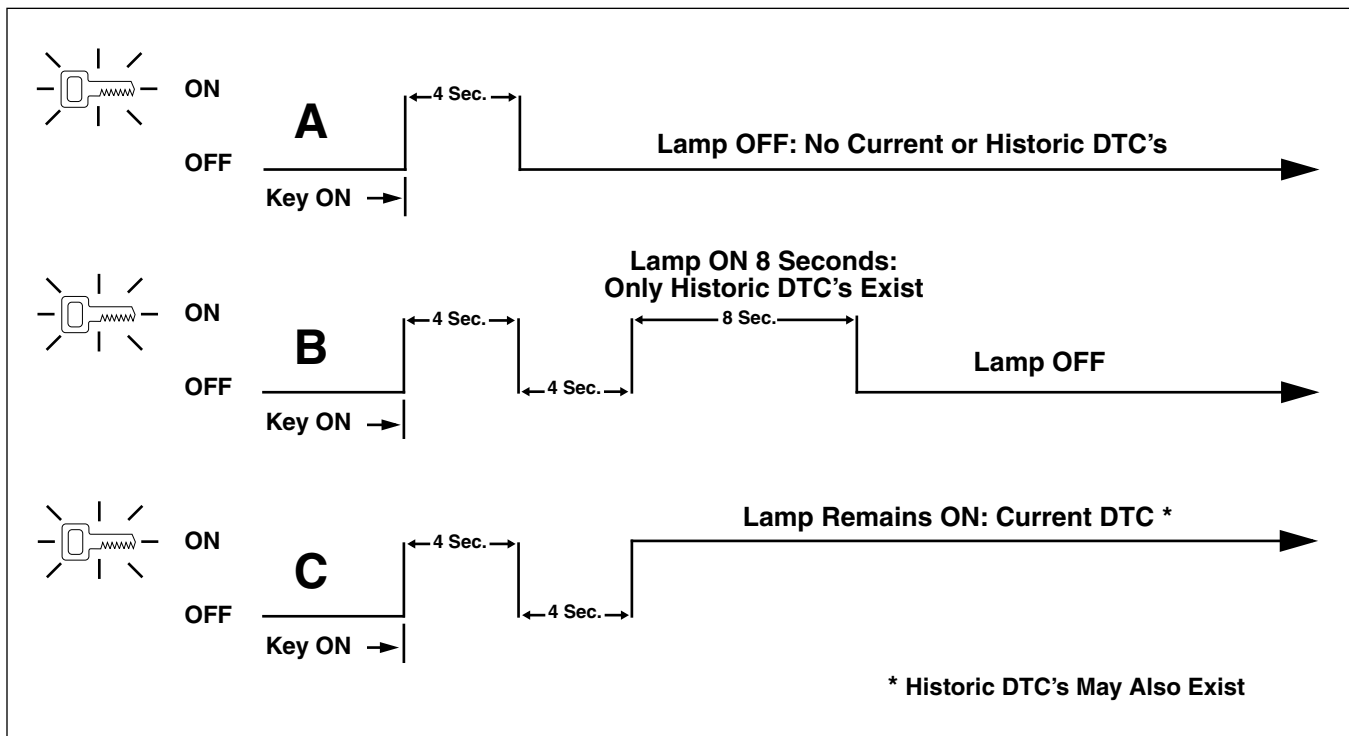

Figure 3-9. Security Lamp Operation
1. See Figure 3-9. After the lamp turns off after being illuminated for the first four second period, one of three events may occur: